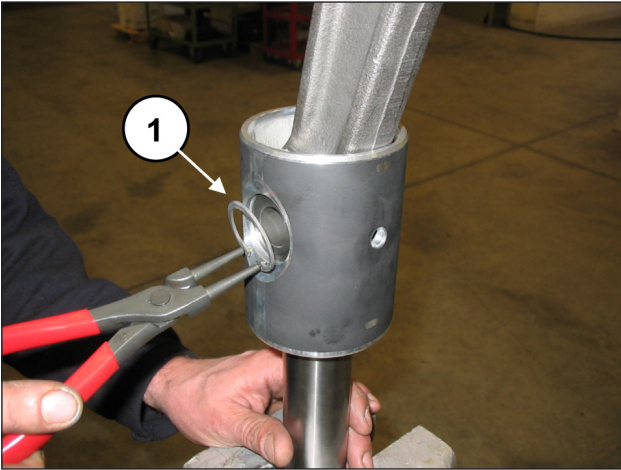
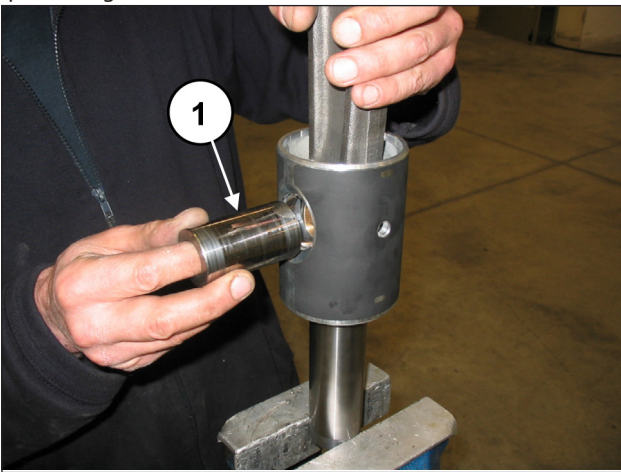
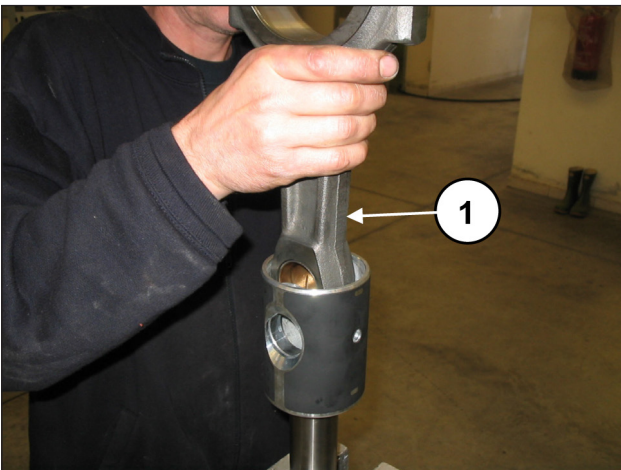

Fig. 43
Fig. 44
Fig. 45
Remove the two spindle locking Seeger rings using a special tool (pos. ①, Fig. 43).
Remove the spindle (pos. ①, Fig. 44) and extract the con-rod (pos. ①, Fig. 45).
Insert the con-rod in the piston guide (pos. ①, Fig. 45) and then insert the spindle (pos. ①, Fig. 44). Fit on the two Seeger rings with the special tool (pos. ①, Fig. 43).